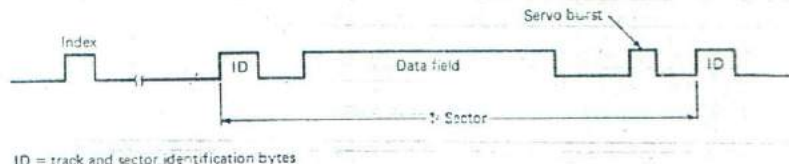

Fig. 13-35 Servo disk format.
Disk technology improves rapidly. The designers are constantly finding ways to pack the data at higher densities. One of the limitations is the medium itself. The Mylar expands and contracts with heat and humidity variations, altering the concentricity of the tracks. All points on any track should be at the same distance from the center hole, but the variations produce track weave. With very high track density, the resulting positioning errors cause data errors. The clamping collet does not always center the disk accurately, thus also limiting track density. These problems have been solved by the newest minifloppies, which pack 3.3M bytes onto a double-sided disk. The drives are only half the size of a standard minifloppy. Greatly improved track density is made possible by a closed loop head-positioning system. Servo information is written to the diskette when it is manufactured. A servo writer places a burst of information in each sector, as shown in Fig. 13-35. A microprocessor-based controller in the drive continuously monitors the servo bursts and sends correction pulses to a fine stepper motor in the head-positioning mechanism. A coarse stepper motor is also available for ordinary track-to-track positioning. The result of this closed loop system is a head-positioning accuracy of within 2.5 μm of the exact data track. The allowable track density increases from 38 to 76 tracks per centimeter with this system. The disadvantages are higher drive and higher media costs resulting from the extra processing step added when the disks are made. Nonservo drives can use blank disks. A blank disk can be organized with track and sector information the first time it is used; this process is called *formatting the disk*.
25. What is the function of the servo burst shown in Fig. 13-35? When is it recorded onto the disk?